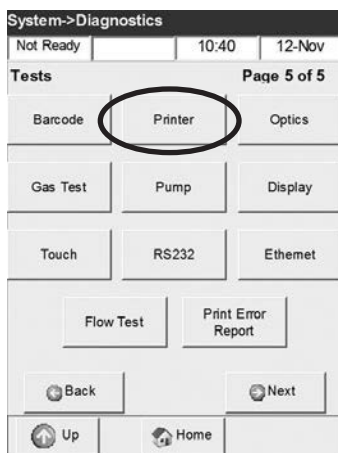

Fig. 7-14 Printer Test
- Press **<Printer>** to start the test (Fig. 7-14).